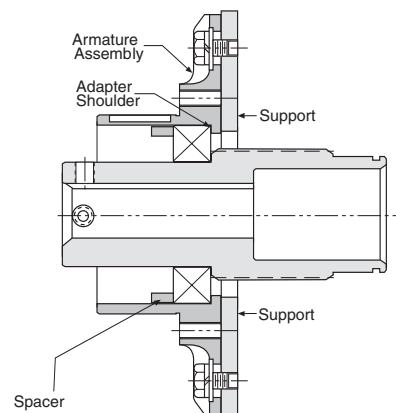

Figure 3
20. Install the spacer (Item 5) as shown in Figure 3.